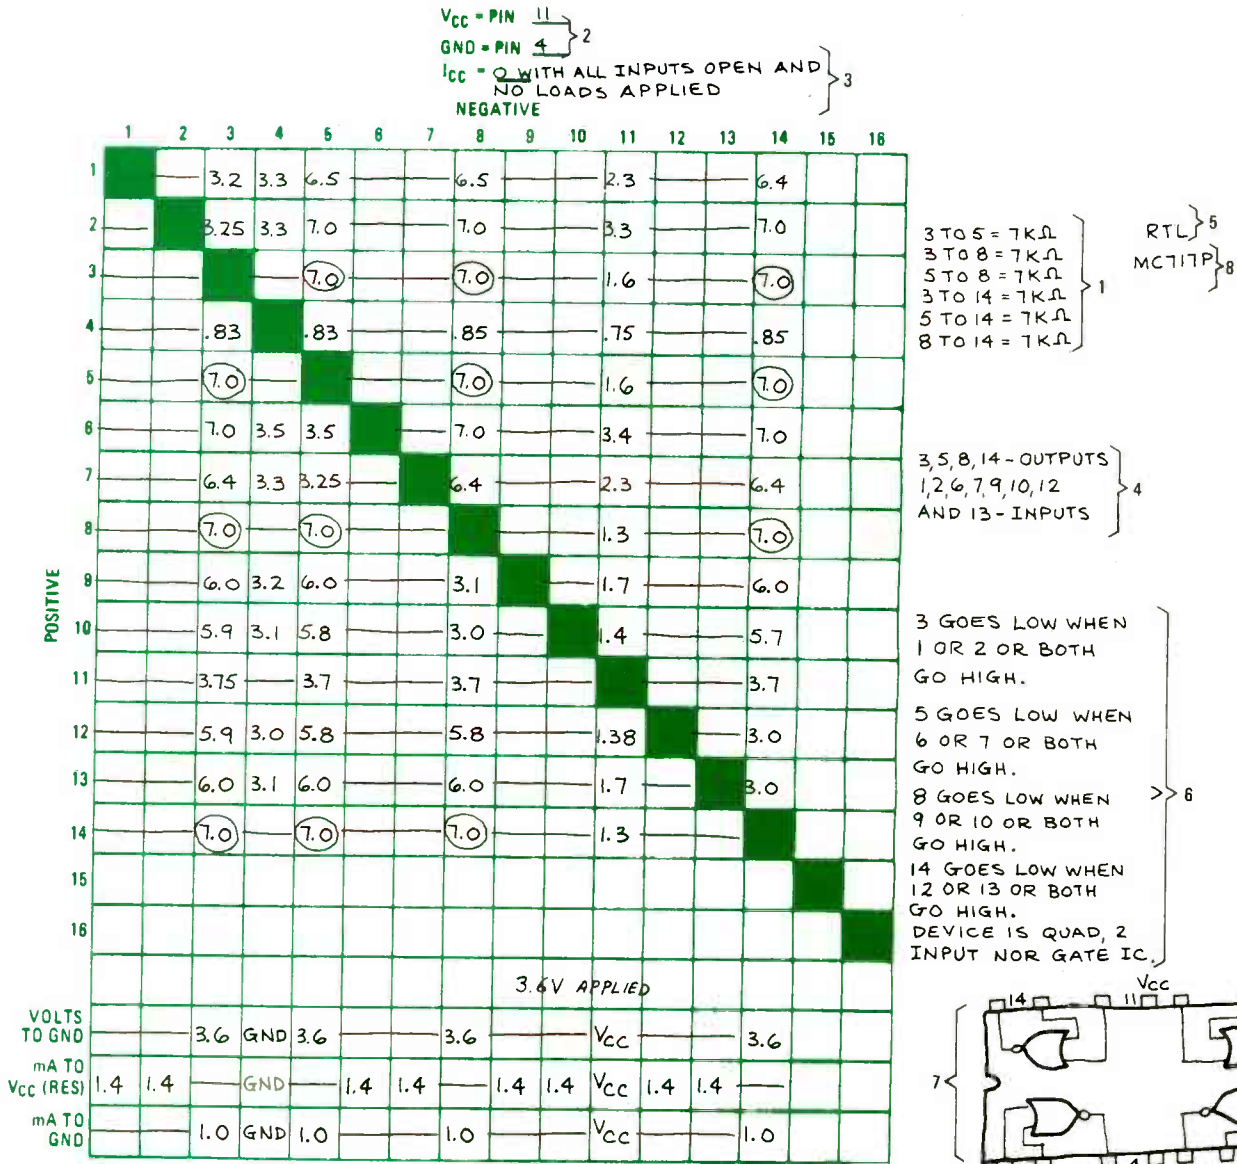

FIG. 2—COMPLETED SIGNATURE CHART for the unknown IC. It turned out to be an quad, 2-input NOR gate.
terminal-to-terminal resistance. That is noted to the right of the chart (Fig. 2), along with the other resistance values and identified as step one. The remaining terminal pairs show grossly different resistance measurements in opposite directions, indicating the presence of one or possibly several semiconductor junctions in the path.
Scan across Row 4 for the lowest uncircled reading—in this case it is the 750-ohms reading in Column 11. That tells us that pin 11 is the V_{CC} terminal of the IC. Record those numbers in the place provided at the right of the chart—Step 2, Fig. 2.
A voltage less than 0.2, but greater than zero, usually indicates logic outputs in the low state. None of those appear in Fig. 2.
Now is the time to remove and reapply power to the IC. Do that several times, each time comparing the voltage at each suspected output to its original recorded value. Often a flip-flop will reveal itself by changing the state of one or more of its outputs. A simple gate will never change state in response to that little trick. The IC in Fig. 2 did not change state so I assumed it was not a flip-flop.
Voltages from about 1.8 down to 0.8 usually indicate TTL or DTL inputs. The fact that there are no such voltages in the "volts-to-ground" row of Fig. 2 was certainly a surprise to me, but it did lead to a pretty solid conclusion: If the IC is not defective, then it is not TTL or DTL.
Input currents for RTL, DTL and TTL fall between 0.8 mA and 2.0 mA. In Fig. 2 all the probable inputs draw 1.4 mA referenced to V_{CC} and nothing referenced to ground. That verifies that they are inputs and shows they are active (draw current) when the input is pulled high. RTL is active-high. DTL and TTL are active-low. Since their appear to be twice as many inputs as outputs, the chart suggests that our IC is a quad gate of some sort. It is reasonable to conclude that pins 1, 2, 6, 7, 9, 10, 12 and 13 are inputs.
Step 5: The symmetrical pattern of resistances in the signature and the strong evidence for four independent outputs with logic-level voltages pretty much rules out any linear IC. Resistive pull-ups could be DTL, but DTL inputs are active-low and our IC is active-high. After reviewing all the evidence I felt there was absolutely no doubt that this device was RTL. That conclusion was recorded in Fig. 2.
The relationships between the inputs and outputs and the conclusion as to the type of device I was dealing with are listed in Fig. 2 as step 6.